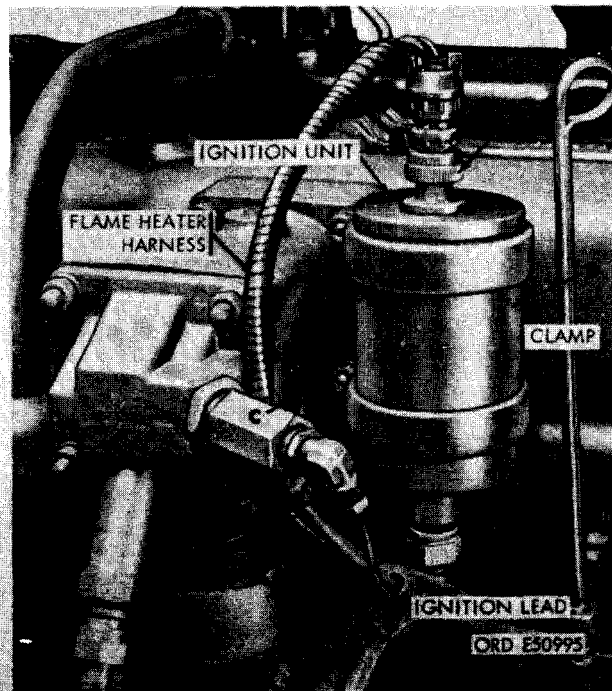

FIGURE 140. REMOVING OR INSTALLING FLAME HEATER IGNITION UNIT.
a. Removal. Figure 140. (A) Disconnect flame heater ignition lead from flame heater ignition unit. (B) Disconnect flame heater harness from ignition unit. (C) Remove two 5/16- inch plain nuts and 5/16- inch lock washers securing the two clamps which secure ignition unit to intake manifold elbow. (D) Remove ignition unit and clamps and remove clamps from unit.
b. Installation. Refer to figure 140 and reverse the sequence of instructions to install the flame heater ignition unit.